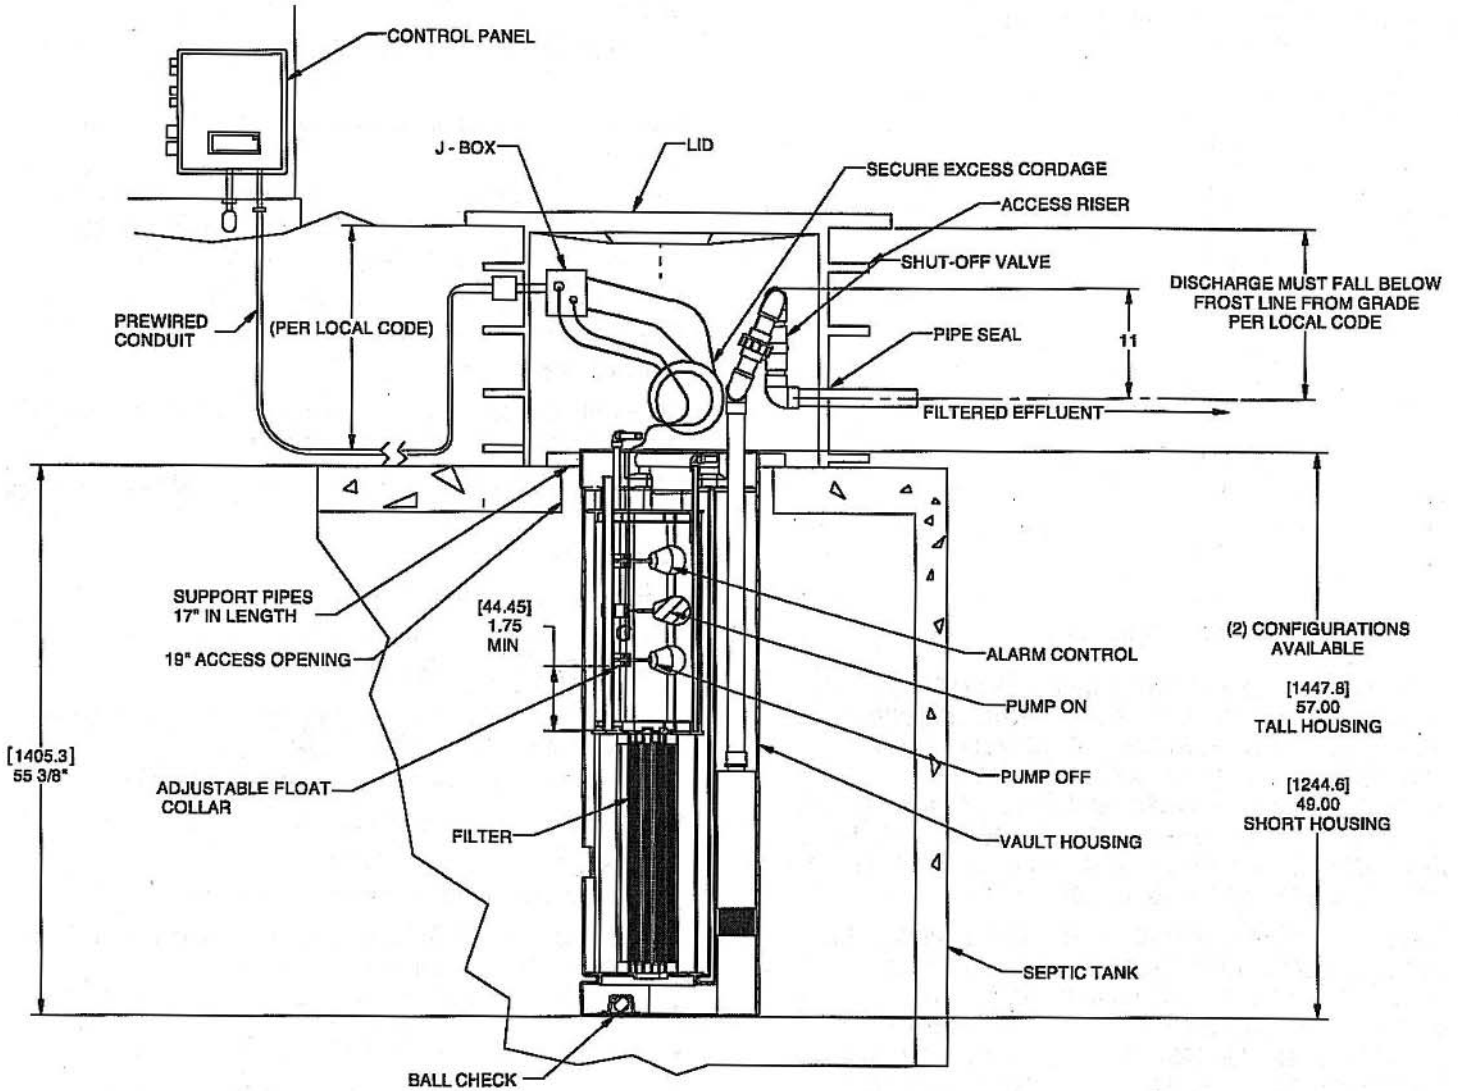

Figure 2
**Step 8:** If you removed the discharge pipe from the pump to cut and assemble the kit, reattach it to the pump. Lubricate the inside lip of the discharge grommet with pipe soap. Slide the discharge pipe through the grommet. Reinstall the pump and discharge piping into the pump chamber. Align the assembly as shown in Figure 2 and assemble the union. Close the shut-off valve and attach the discharge pipe to the lateral field pipe with PVC solvent/cement. It is strongly recommended that an additional shut-off valve and redundant check valve be located outside the basin at any force main entrances - check local codes for specific requirements.